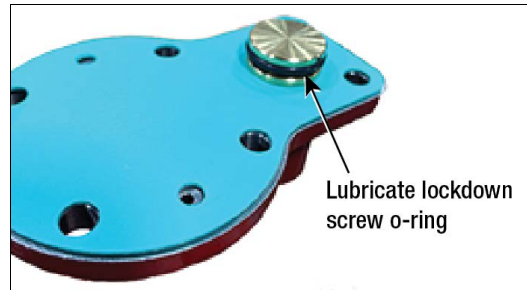

Figure 7. Functional Element Screw Tightening Sequence
13. Lubricate the o-ring on the Lockdown Screw, using petroleum jelly (see Figure 7).